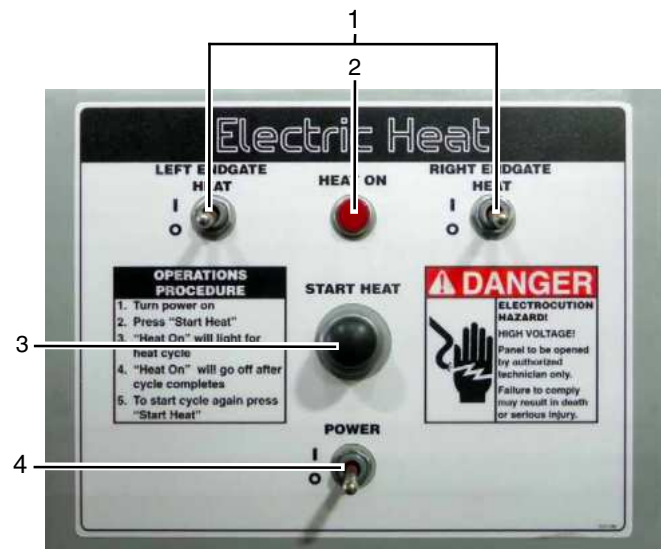

Figure 4-39. Electric Heat Control Box
This control box is where you will select the heating function before you begin to pave. It is easily accessible to the screed operator when a heating cycle is needed. **(Figure 4-39)**.
4. Turn the electric heat control box power ON by flipping the power switch up. **(Figure 4-39)**